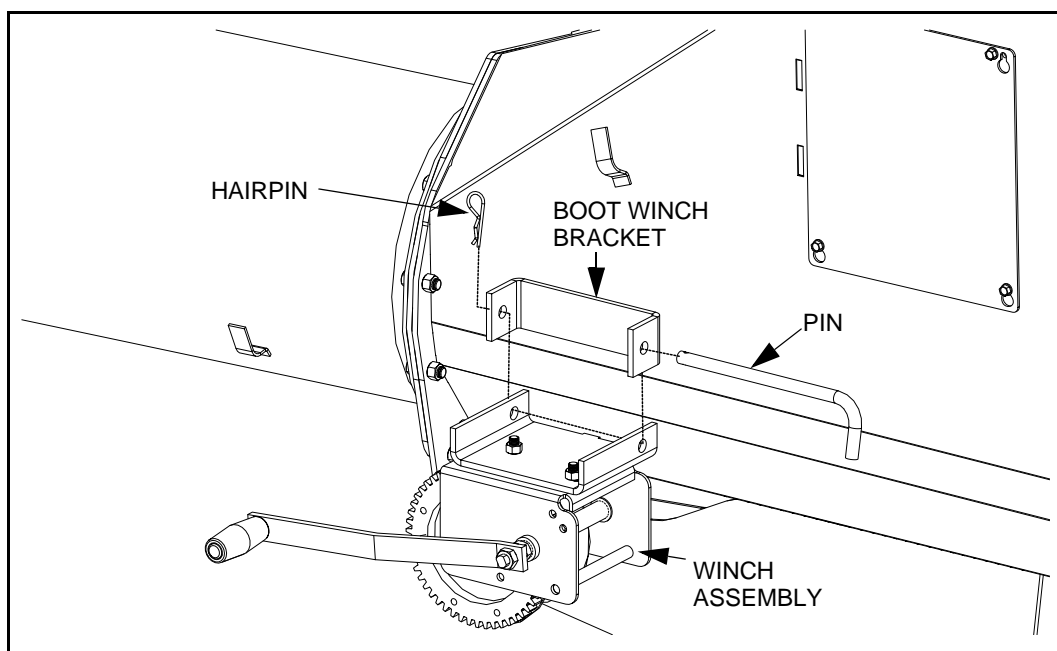

Figure 3.41 Positioning winch on the other side of the boot
- Position the winch upside down on the other side of the boot (see Figure 3.41).